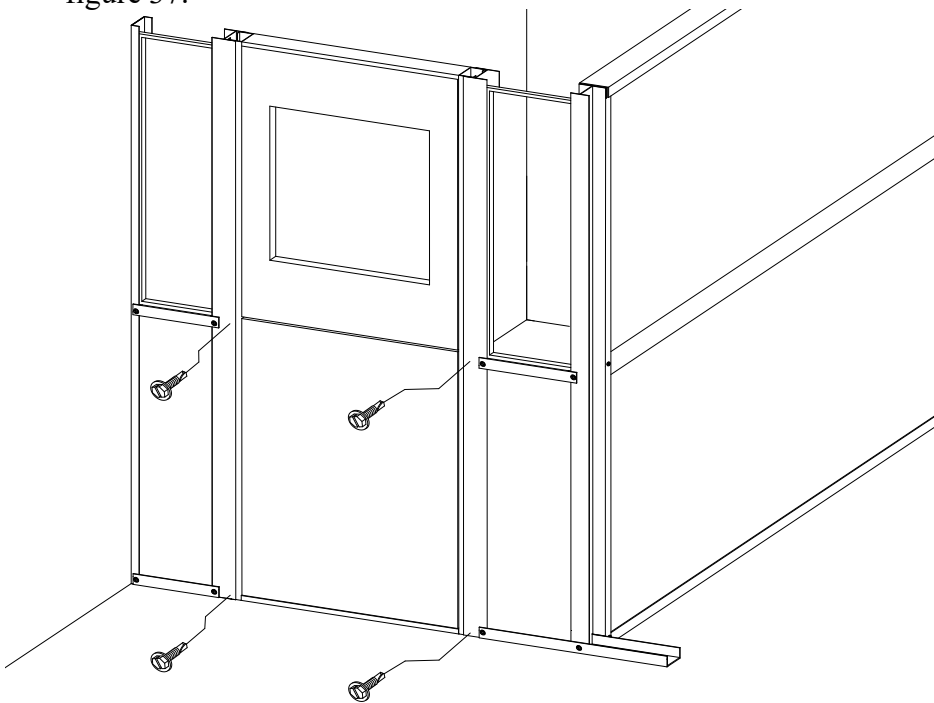

Figure 37
22. Using a level and a tape measure ensure that the door is vertical and roughly centered in the two “D” channels. When the door is properly in position the top and sides gaps should be even and not tapered. If they are not adjust the door until they are, this ensures that the door functions properly. Screw through the “D” channels into the door frame to secure it in position. Note: do not screw into the frame at the top of the “D” channels, this will interfere with the top cap. See figure 37.